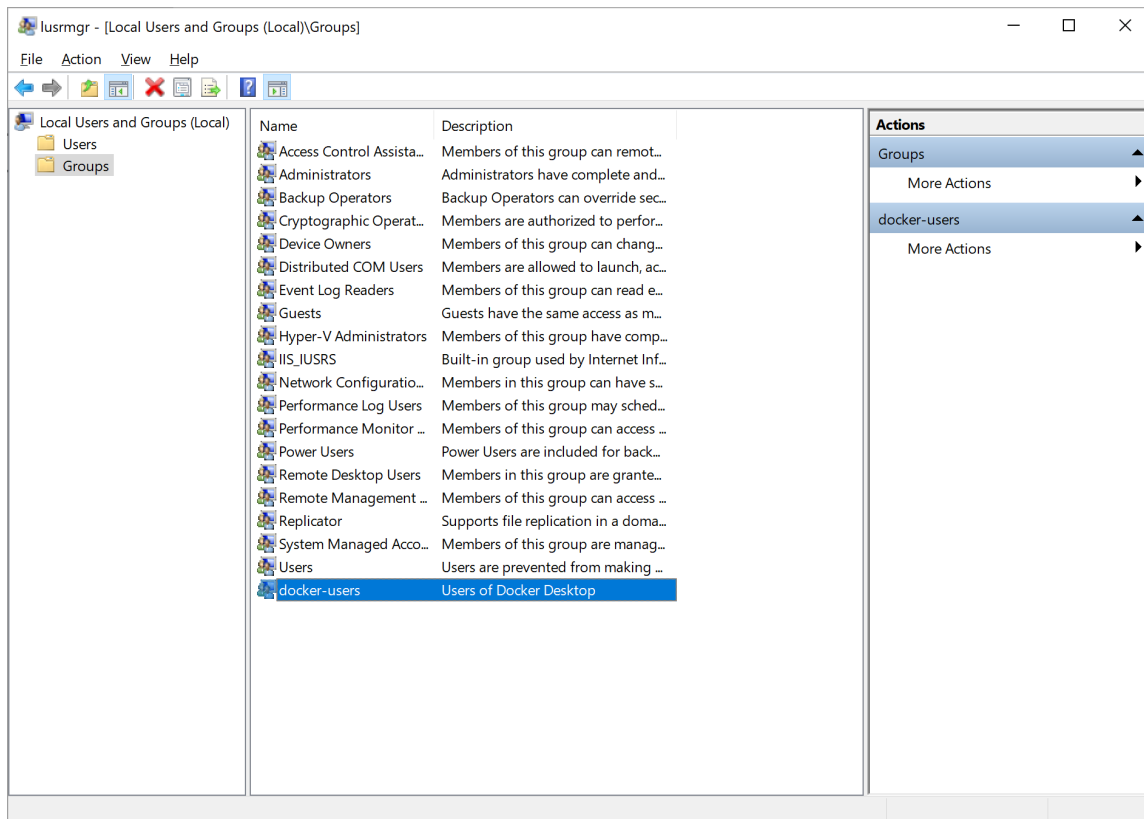

Figure 3-2 Windows Users and Groups
- Add your username to the docker-user group in Windows (see Figure 3-2).